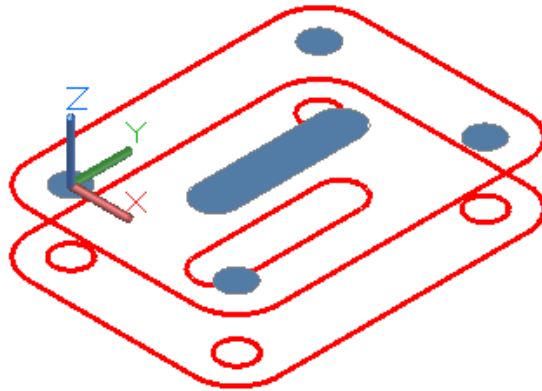

Figure Step 10
Step 10 Set the current visual style to: Realistic. Your model should appear as shown in the figure. (Figure Step 10)